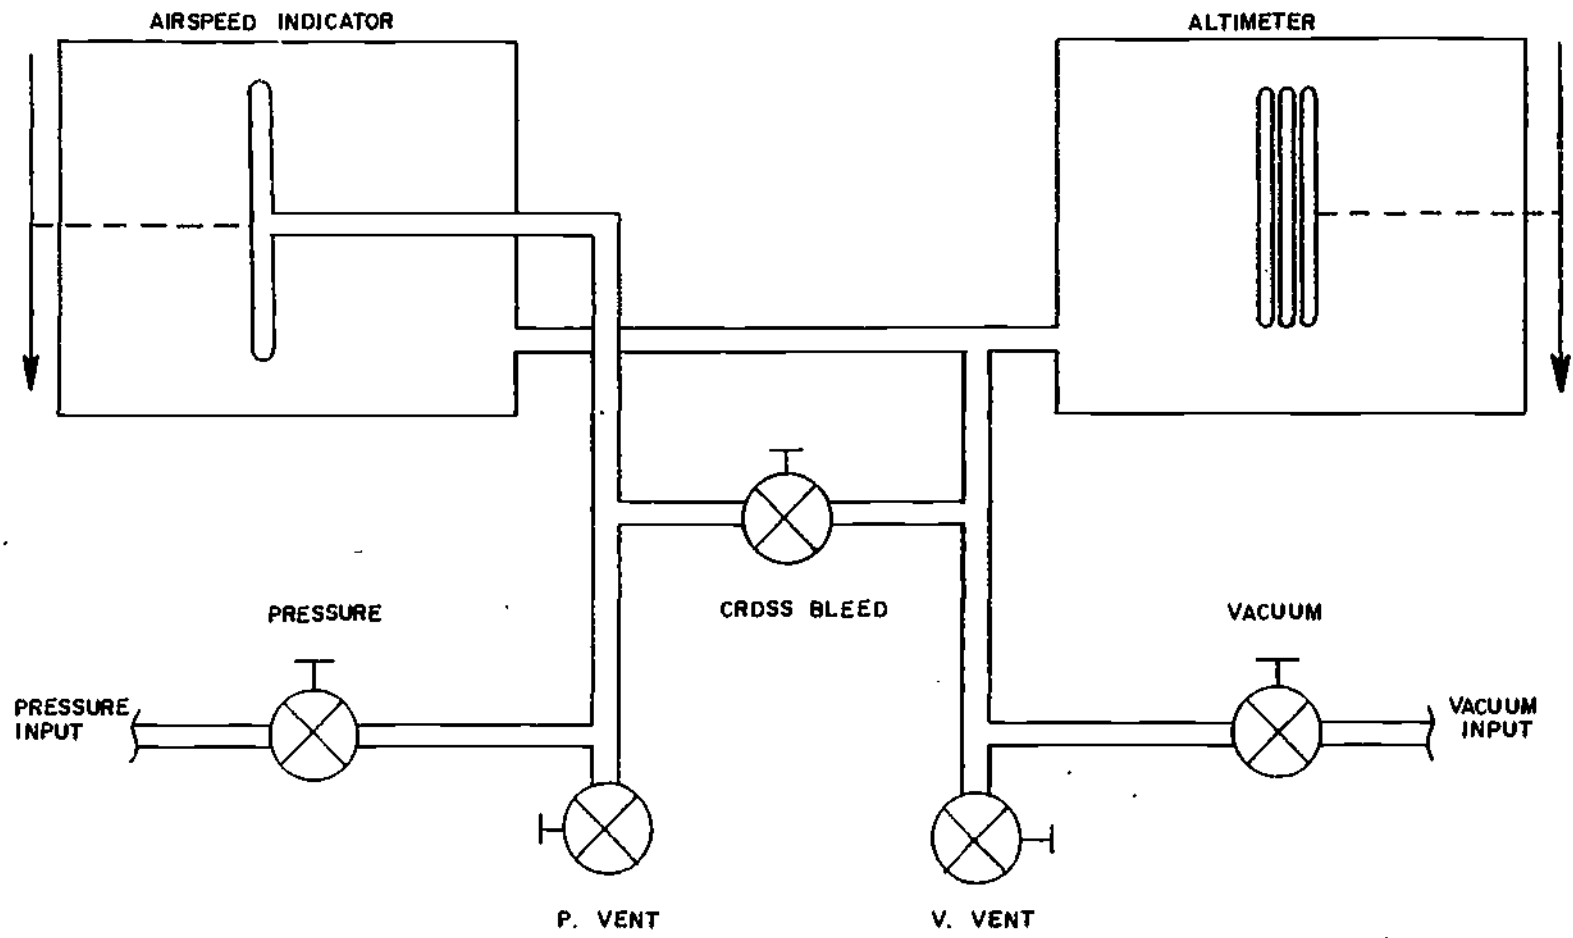

Figure 2.
(3) Vacuum Source Valve: When open applies a vacuum source to the using system. The amount of vacuum required (static) will be read in feet on the altimeter located on the control panel.
(4) Vacuum Vent: When open, releases vacuum from the using system and the control panel.
(5) Cross Feed (refer to figure 2).